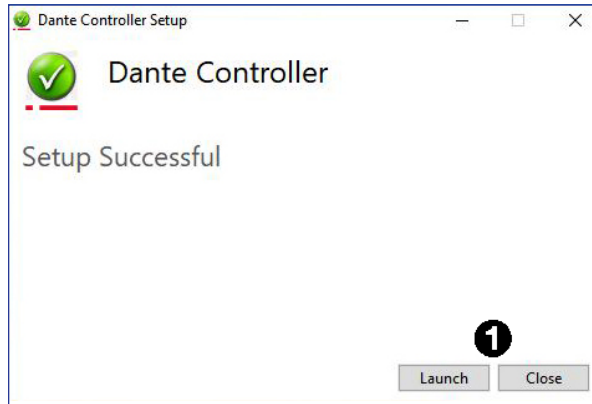

Figure 7. Dante Controller - Setup Successful
4. Click **Run** (4) to run the installation (or click **Save** to save the executable file).
6. When the installation completes, choose to **Launch** or **Close** the program (see figure 7, 1).